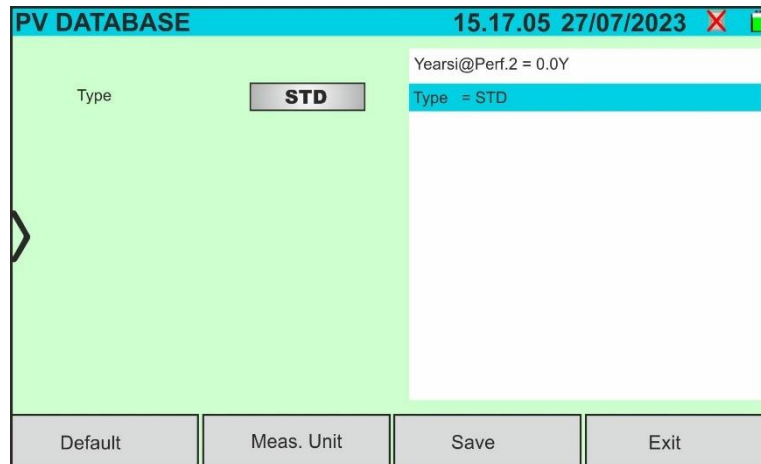

Fig. 27: Creating a new PV module - Step 3
4. Scroll the display up/down to view all the parameters. For the "Type" parameter, scroll the thumb wheel to the right or left to set the PV module type (see Fig. 27). The following options are available: